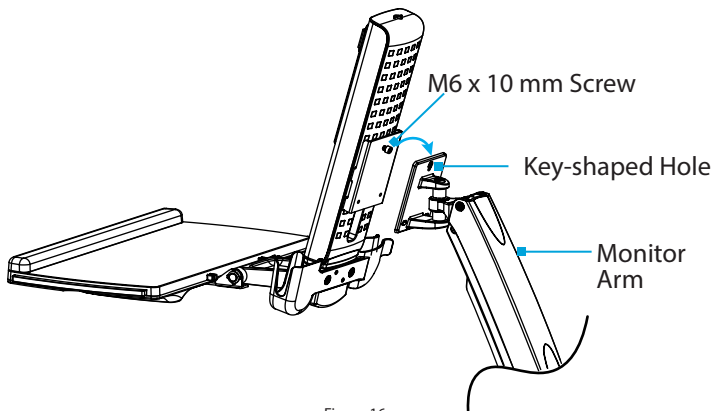

Figure 16
2. Hook the **M6 x 10 mm Screw**, attached to the column, into the **Key-Shaped Hole**, located at the top of the **Plate** on the **Monitor Arm**. (Figure 16)